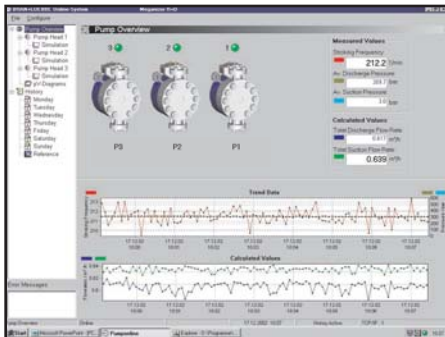

Figure 3: Pump status and status of each pump head, as “traffic signals”
- Pump status and the status of each pump head, as “traffic signals” (Figure 3).